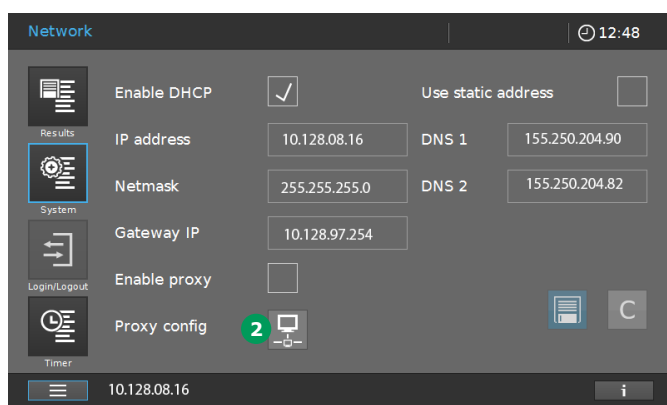

Figure 24 - After clicking on "Network" in the previous window (Figure 23), this window will appear
2. Open the Proxy config ② in the Network menu (Figure 24).